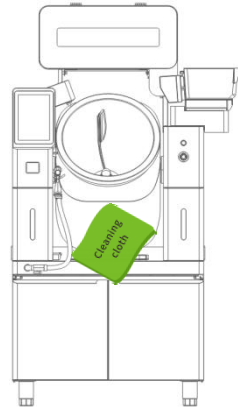

Figure 6-2 Machine Surfaces Cleaning
6.1.7. Machine Surfaces Cleaning, like Figure 6-2